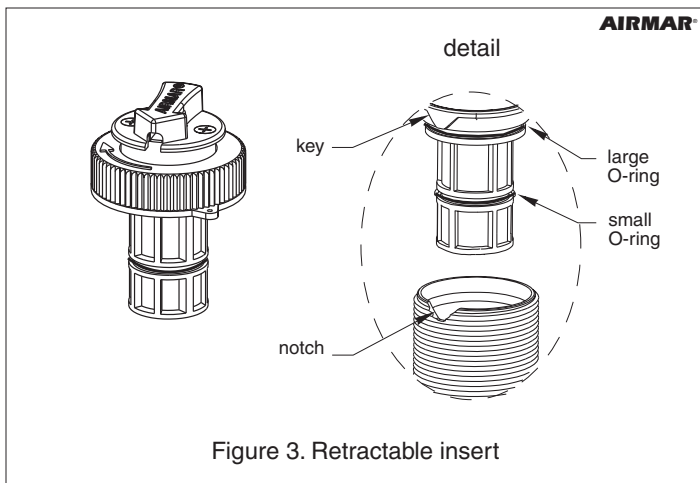

Figure 3. Retractable insert
After the sealant cures, inspect the O-rings on the insert (replace if necessary) and lubricate them with the silicone lubricant supplied (see Figure 3).
O-rings must be free of abrasions and cuts to ensure a watertight seal. Install a large O-ring under the cap nut of the insert. Install a small O-ring near the bottom (see Figure 3). Place the remaining two O-rings in similar positions on the blanking plug.
- Inspect the O-rings on the blanking plug (replace if necessary) and lubricate them with the silicone lubricant supplied or petroleum jelly (Vaseline®) (see Figure 3).
- To remove the insert from the housing, unscrew the cap nut. This will jack the insert out of the housing. Do not unscrew the screws. With the blanking plug ready in one hand, pull the insert out. Rapidly replace it with the blanking plug. Seat it into place with a pushing twisting motion until the key fits into the notch in the housing (see Figure 3). Screw the cap nut in place and **hand-tighten** only. Do not over tighten.